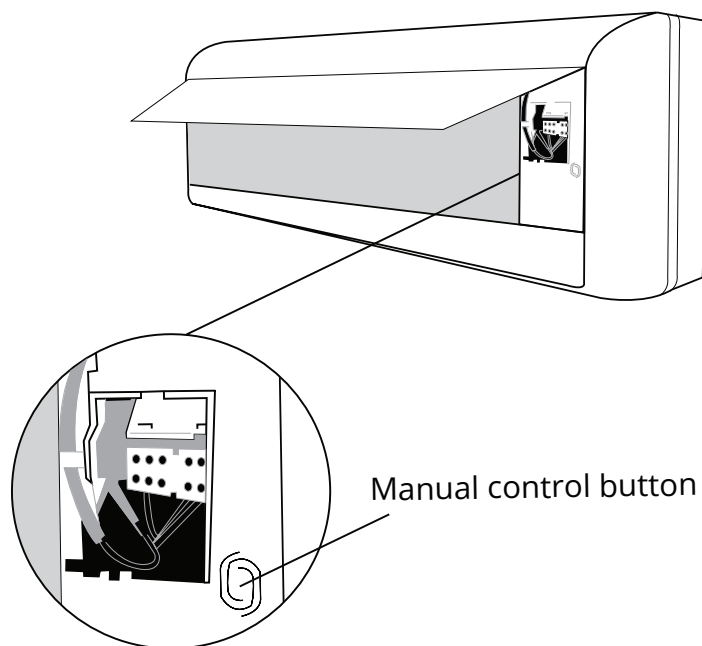

Fig. 8.1
2. The **MANUAL CONTROL** button is located on the right-hand side of the unit. Press it twice to select the COOL function (See **Fig 8.1**).